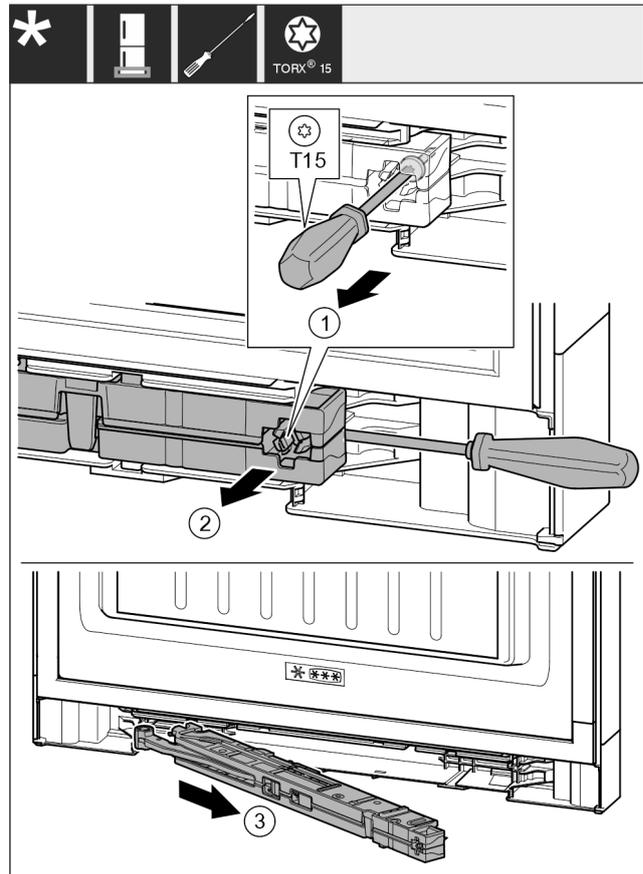

Fig. 21
- ▶ Use screwdriver to loosen the screw Fig. 21 (1) on the closing damper unit by 14 mm.
- ▶ Lever the closing damper unit Fig. 21 (2) forwards on the handle side using a screwdriver.
- ▶ Pull out the closing damper unit Fig. 21 (3).